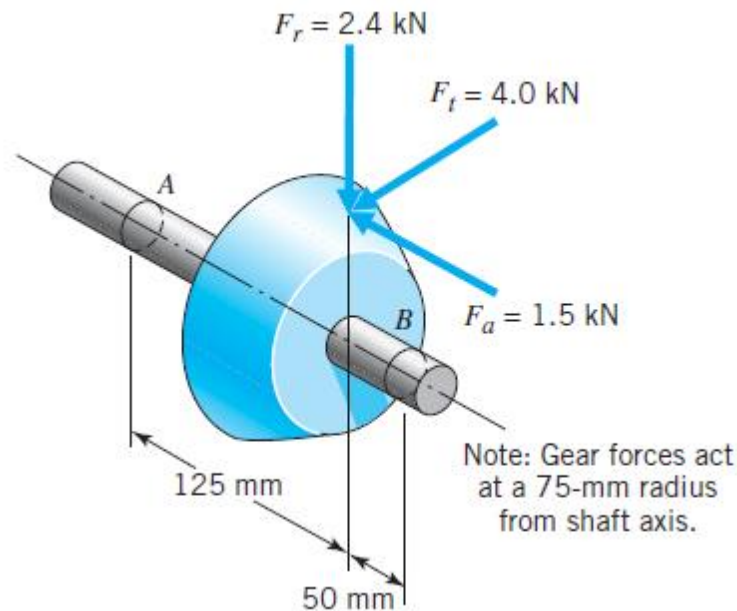

Fig.2 Bevel pinion and shaft (ref: Fundamentals of Machine Component Design, 5th Edition, Wiley.)
2. A bevel pinion and shaft are shown in Fig.2. Bearing A takes thrust. The left end of the shaft is coupled to an electric motor, and the right end is free. Load components applied by the mating bevel gear are shown.